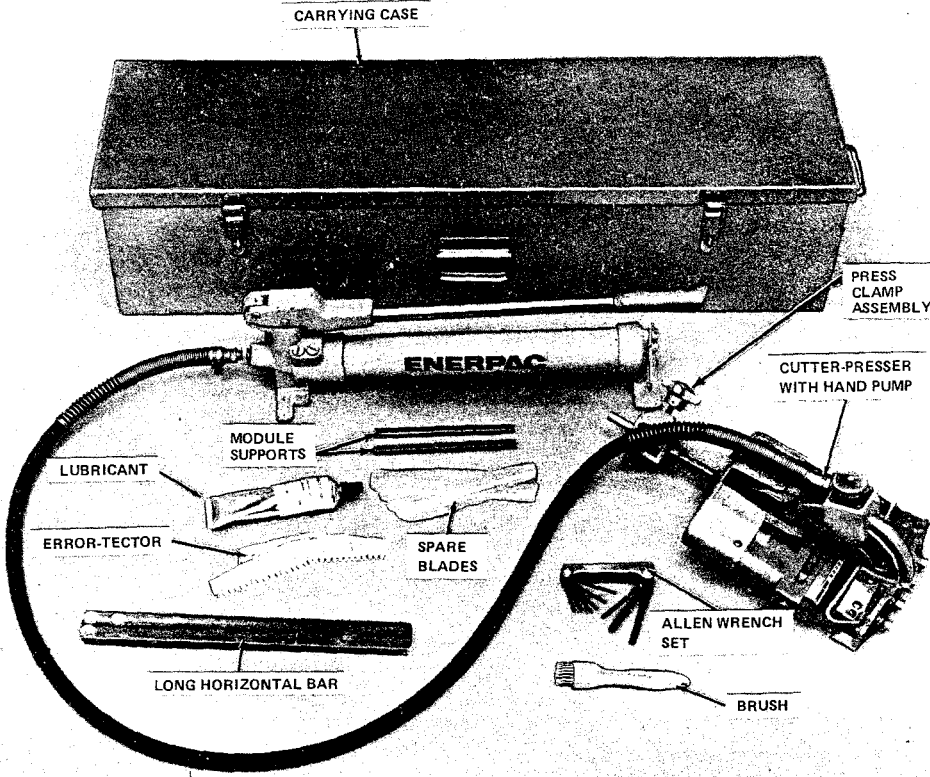

Fig. 30—F Cutter-Presser
4.18 *The F cutter-presser (Fig. 30) is a hydraulic tool operate by a hand pump.*